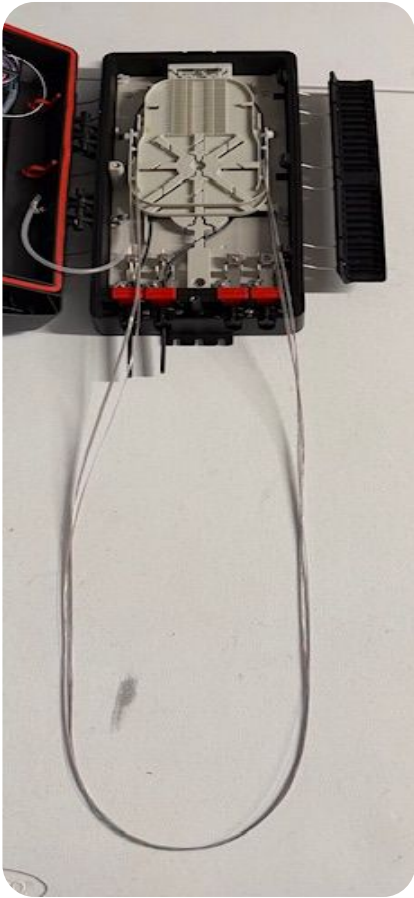
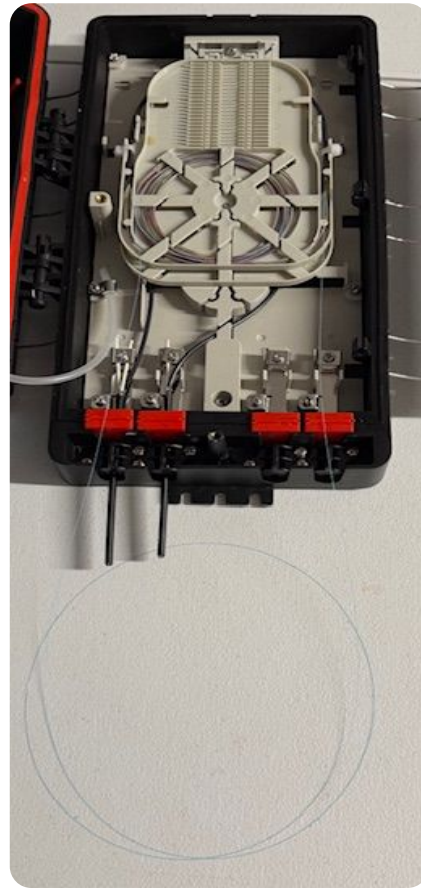

Fig. 8k
Fig. 8l
- Separate fiber to be spliced (to input of drop splitter) and store the fibers that will pass through as shown in Fig. 8k and Fig. 8l.